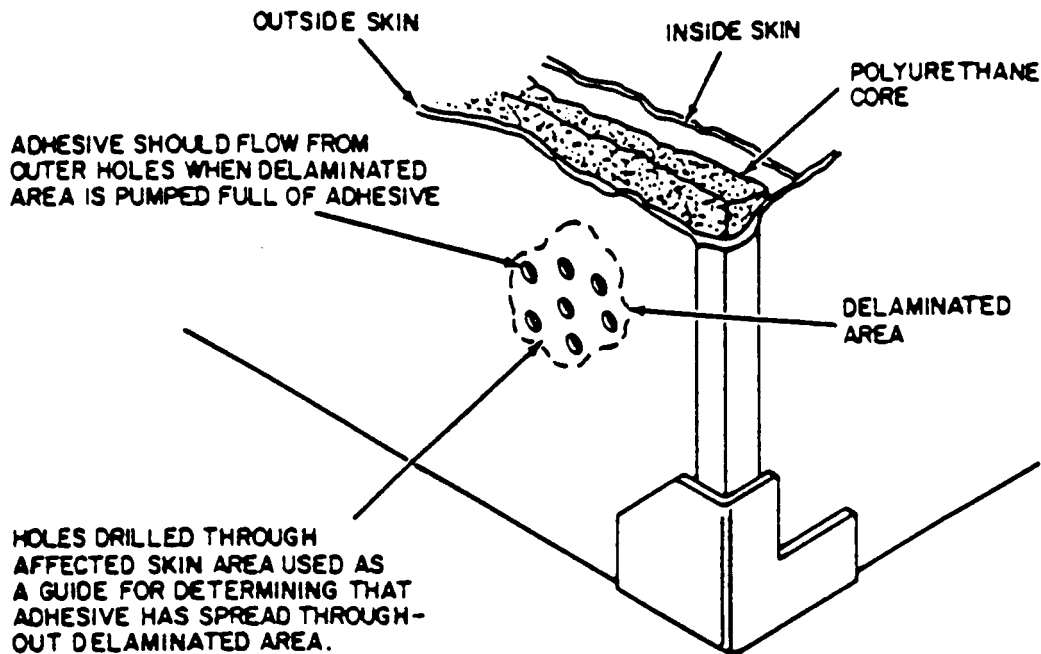

Figure 4-1. Skin Panel Delamination Repair.
**b. Repair.** (Figure 4-1)
(1) Mark off the limits of delaminated area.
(2) Using Figure 4-1 as a visual guide, drill a 3/16 inch diameter hole in approximate center of delaminated area of affected panel only. This hole will be used to pump epoxy adhesive into delaminated area.